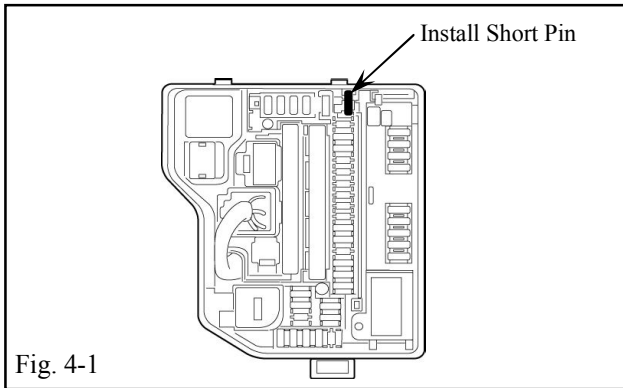

Fig. 4-1
- (1) Reconnect any disconnected connectors.
- (b) Verify that the Short Pin is installed. (Fig. 4-1)
- (1) If not install the Short Pin.